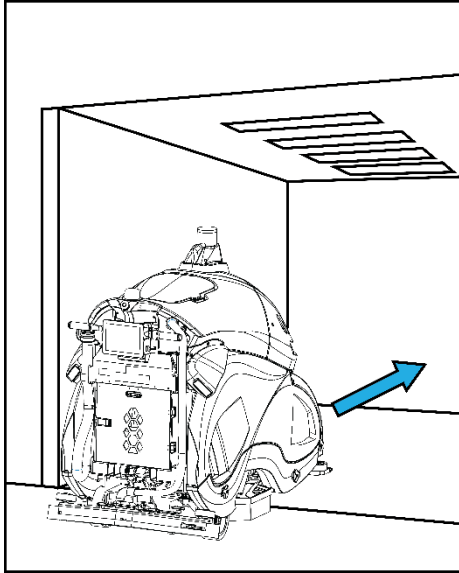
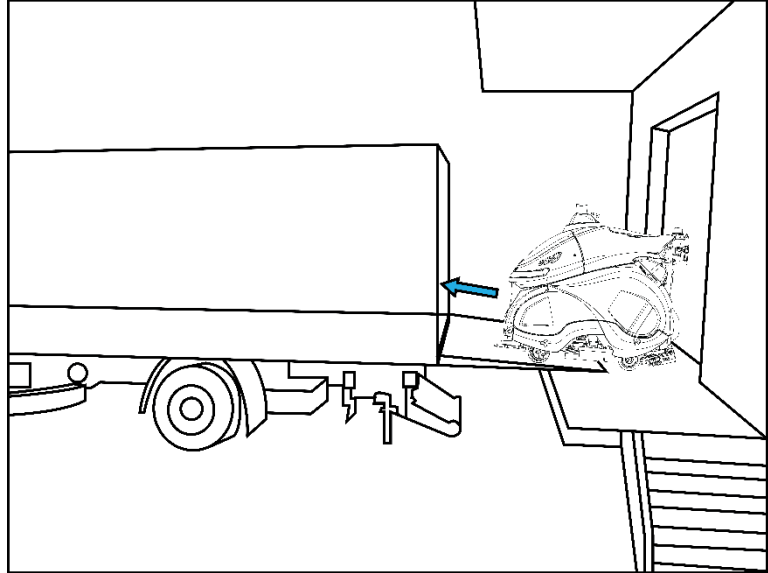

Fig. 3
Fig. 4
- Use Manual mode to Move the REXSCRUB into lifts or loading: in reverse/forward (Fig 3 & Fig 4).
- When moving the REXSCRUB onto a hydraulic ramp of a truck, drive in. (Fig. 4).